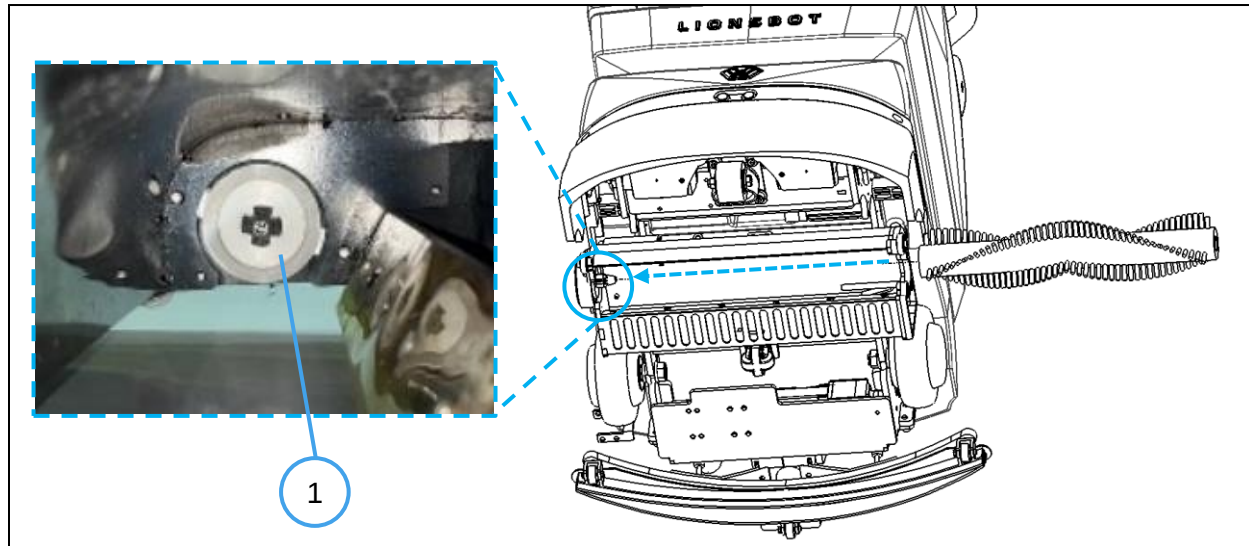

Fig. 3
3. Slide the brush in until the brush alignment feature sits on the male alignment and lock feature (fig. 3 – 1).